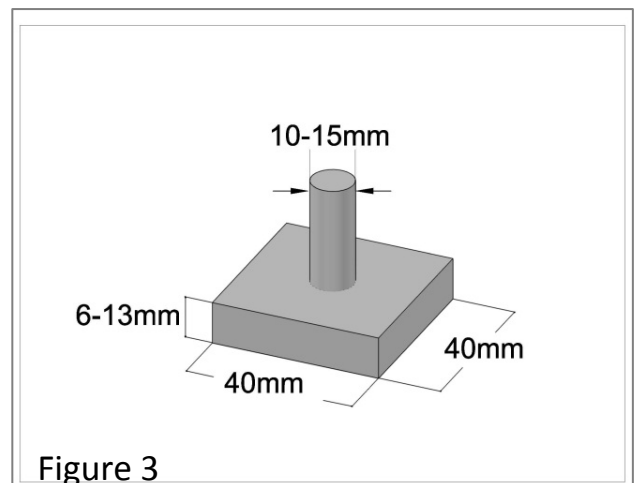

Figure 3
- The load will be applied to the Loading Plane **from above** with the loading plate (**Figure 3**) centered over one of the loading locations.
- The load will be applied from above by means of a 40 mm square by 6 mm - 13 mm thick plate. A 10 mm - 15 mm diameter loading rod will be attached to the center of the plate (see **Figure 3**). The plate will be horizontal, have a flat bottom and will not pivot on the loading rod.